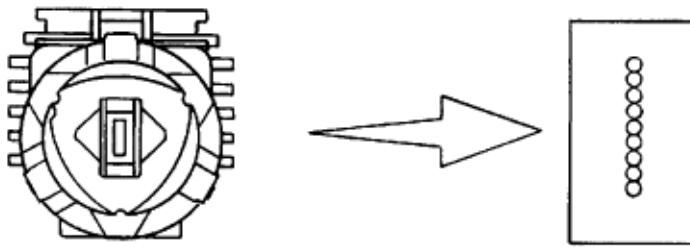

Figure 2-2 Arrangement of the head pins
2.2.1 Printhead Mechanism and Operation (See Figure 2-2 below).